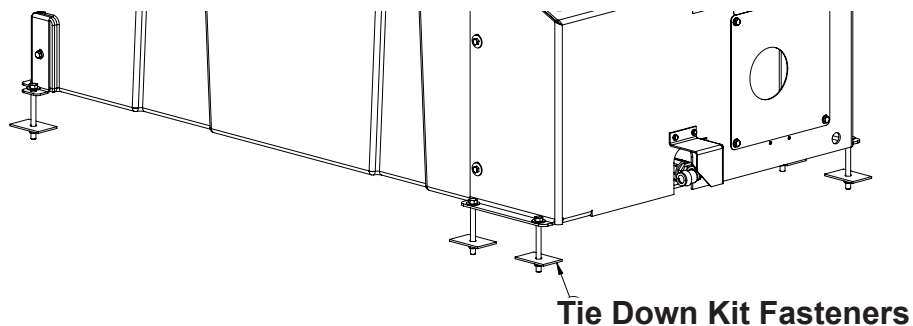

Figure 64. Cradle Tank Tie Down Kit
3. Use the Cradle Tank Tie Down Kit (PN: 000-078-200) included with the unit to bolt the tank down. (Figure 64)